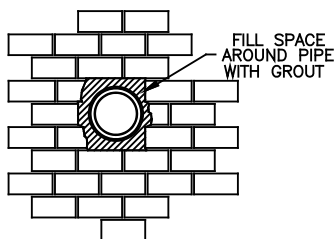

Figure 27
7. Once the horizontal Pipe Section is in place, the space between the pipe and the masonry may be filled with high temperature grout, if desired (*Figure 27*).